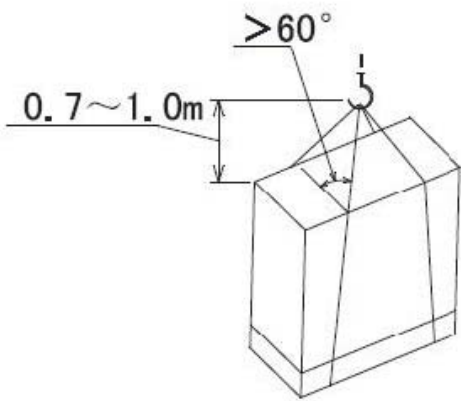

Fig. 3.1 Hanging Work for Transportation
(1) Do not remove any packing materials.
(2) Hang the unit under packing condition with two (2) ropes, as shown in Fig. 3.1.